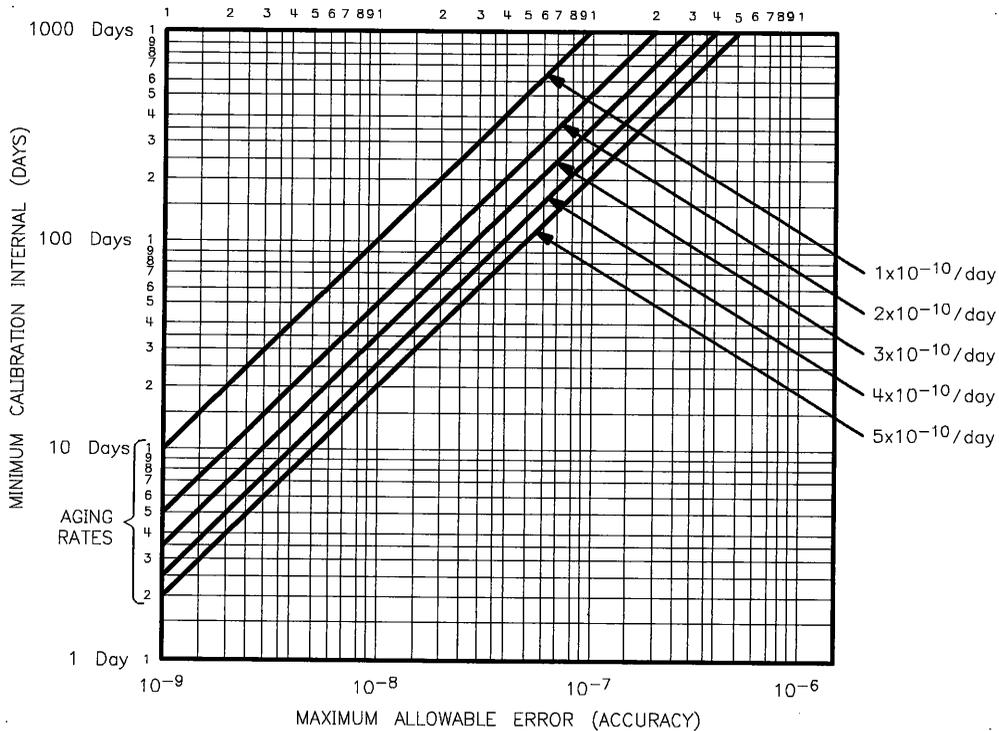

Figure 3-3. Accuracy Versus Adjustment Interval
This procedure adjusts the frequency accuracy of the internal 10 MHz time base. This adjustment should be done on a regular basis if absolute frequency accuracy is important (see Figure 3-3.)
Figure 3-3 shows the required adjustment interval to maintain a given accuracy. If you know the aging rate, you can determine a more precise adjustment interval.
1. Find the line on Figure 3-3 that corresponds to the 10 MHz timebase oscillator aging rate. (To determine the aging rate, see "Performance Tests.")